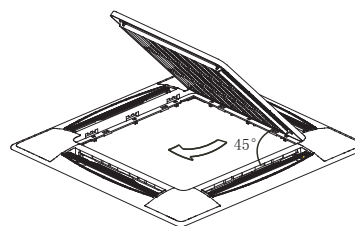

Fig.4-13
- 2) Draw the grill up to an angle of about 45 degrees, and remove it. (Refer to Fig.4-13)